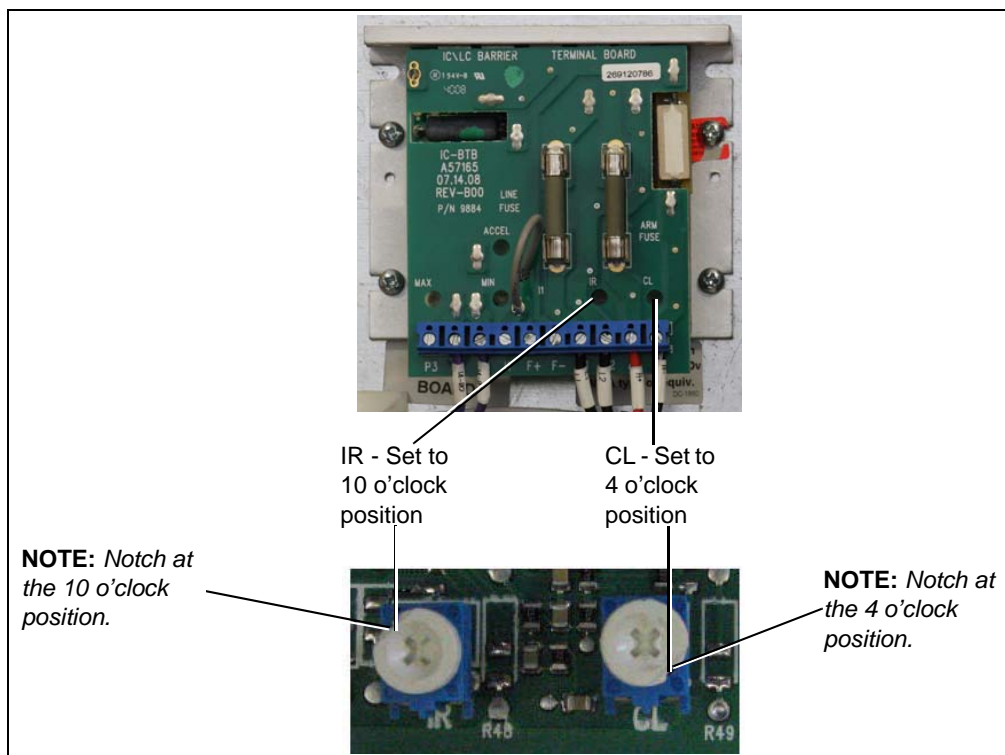

Figure 3B SCR Board IR and CL Adjustment Locations
- The indentation of the adjustment knob should be set at the 10 o'clock position. If it is not set at the 10 o'clock position, adjust as necessary by using a small screwdriver. (See Figure 3B.)
- The indentation on the adjustment knob should be set at the 4 o'clock position. If it is not set at the 4 o'clock position, adjust as necessary using a small screwdriver. (See Figure 3B.)